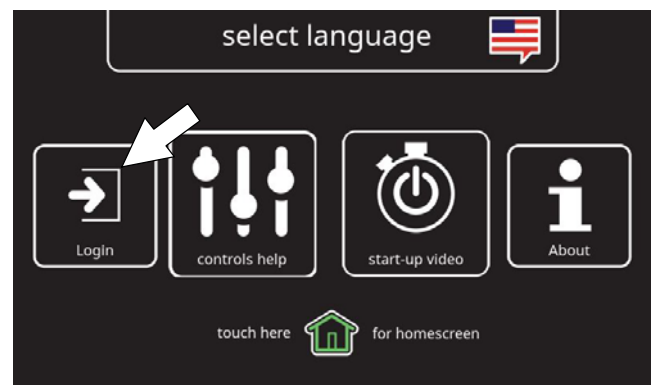

FIG. 165
2. Press the login button (Figure 165).